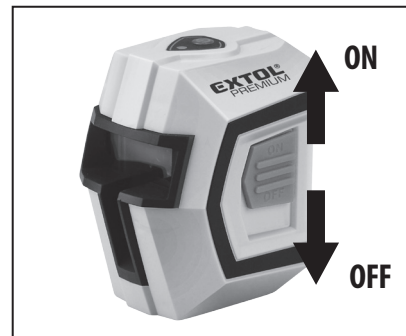

Fig.2
4. **To turn off the device, move the switch to the „OFF“ position, see fig.2.**